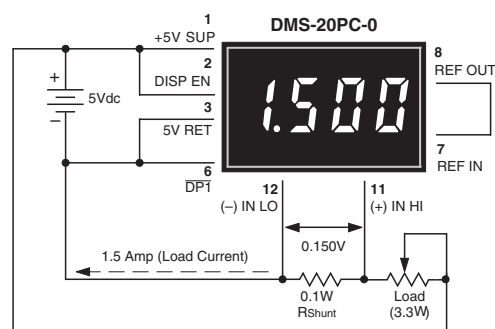

Figure 9. Basic DC Ammeter Circuit
**7. Digital Ammeter:** Digital ammeters are finding ever-increasing usage because analog-style ammeters (moving-vane types) now cost roughly the same as their digital counterparts. Additionally, analog ammeters are not nearly as rugged as modern digital panel voltmeters. Figure 9 illustrates a typical ammeter application. The circuit uses a  $\pm 200mV$  input meter — the preferred range for most ammeters — to measure the voltage developed across a 0.1Ω current shunt. The circuit shown represents a basic ammeter connection diagram. Click here to view a detailed application note describing digital dc ammeters.